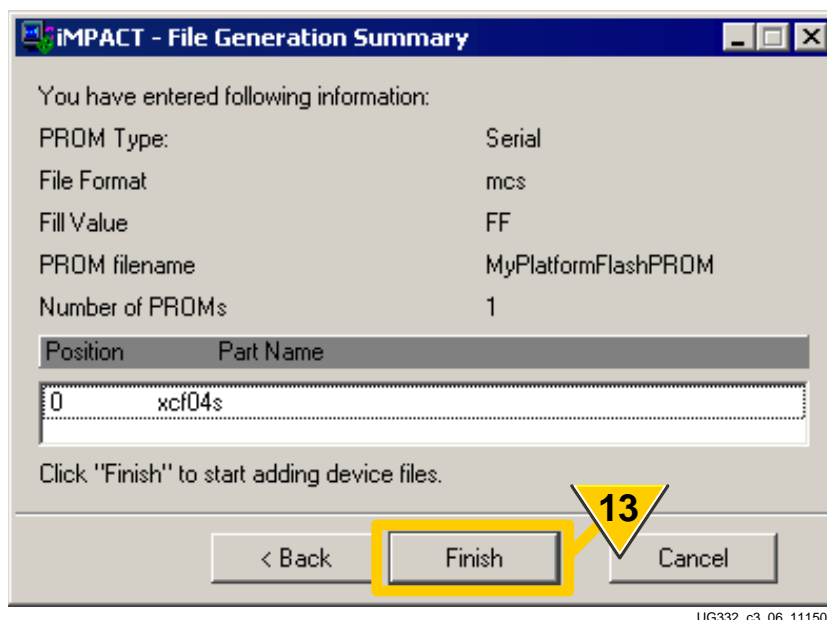

Figure 3-11: Review PROM Formatting Settings
13. As shown in Figure 3-11, review that the settings are correct to format the Platform Flash PROM. Click **Finish** to confirm the settings or **Back** to change the settings.